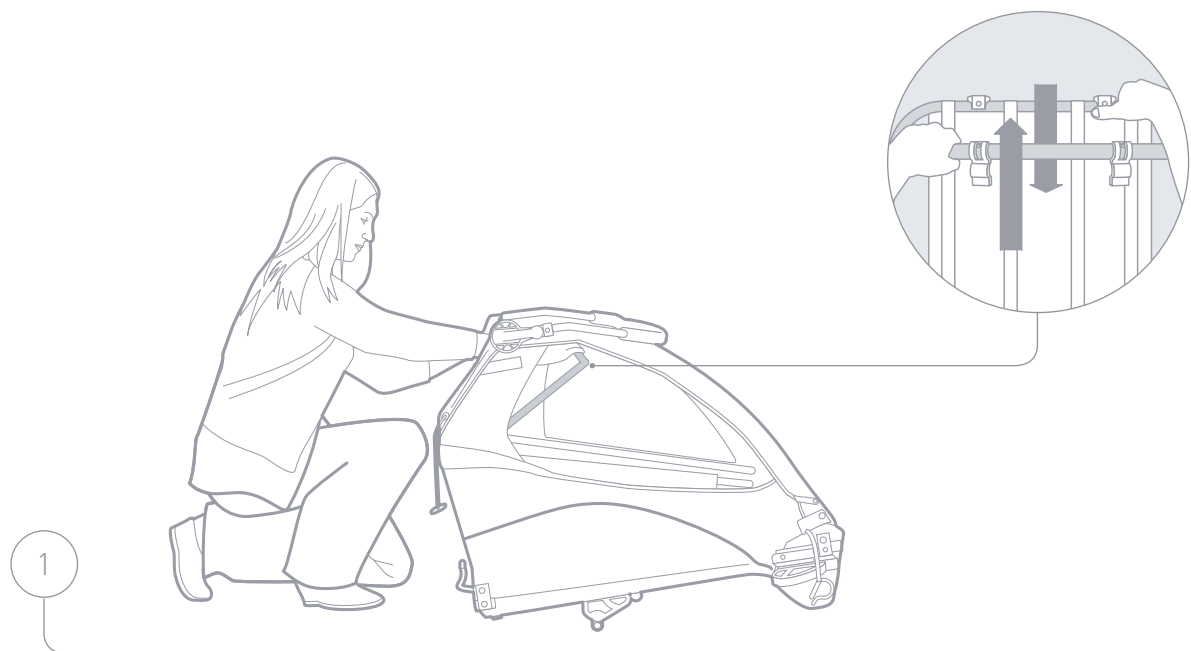
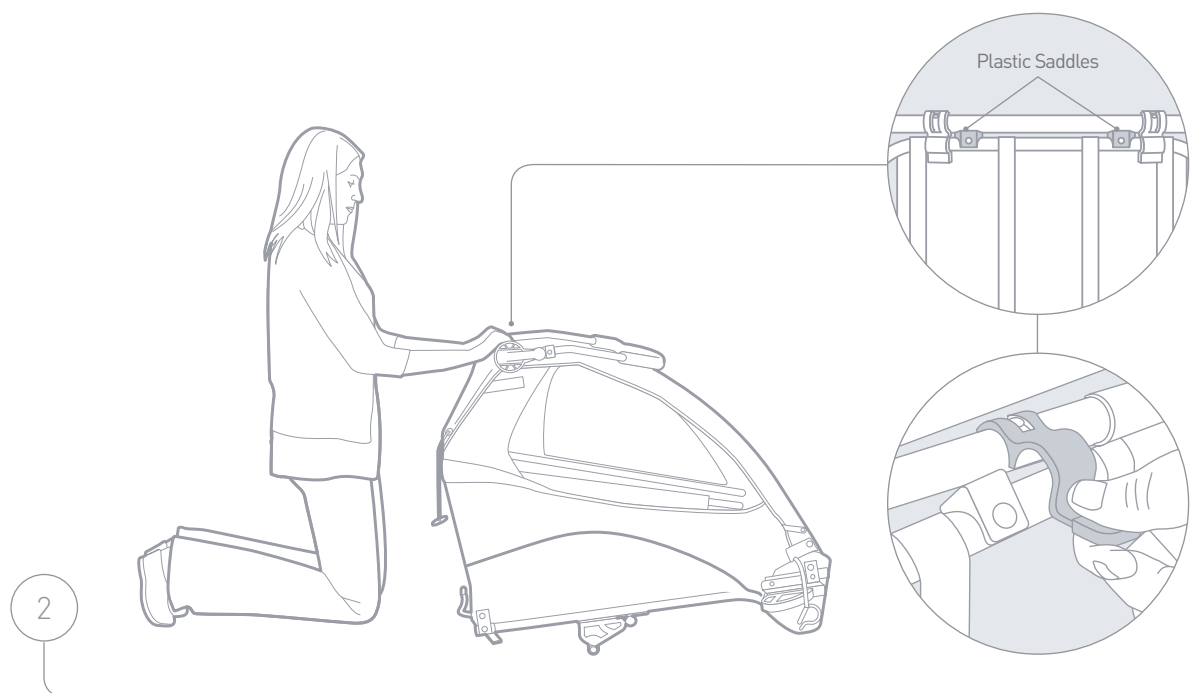

Figure 1
Figure 2
1. Raise front frame tube and rear frame tube from inside the trailer (Figure 1) until they sit together on the plastic saddles (Figure 2).